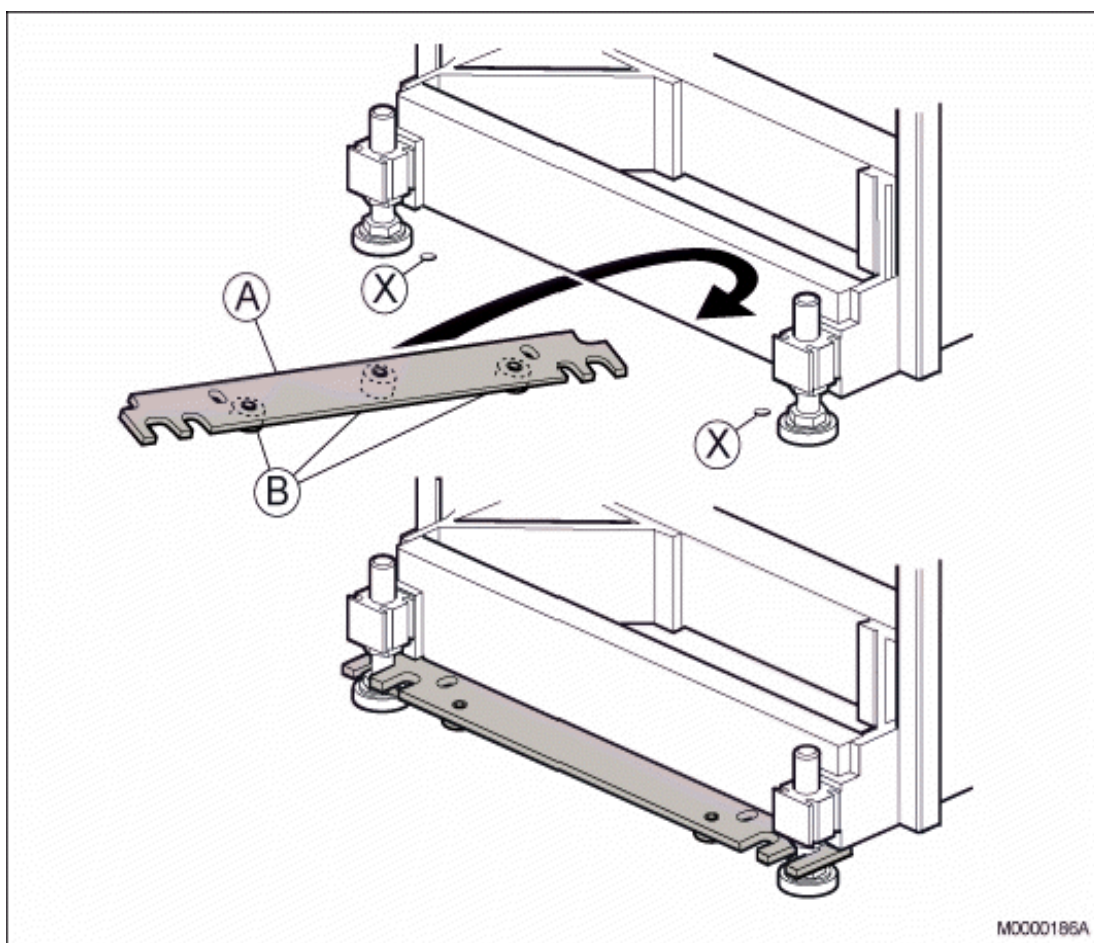

Figure 4: Installing the Tip Protection
1. Insert two expander screws (C) through the yoke (A) and into the concrete, see Figure 4 Installing the Expander Screw on page 11
3. Install two insulating washers (D), two washers (L), and two nuts (G) on the two expander screws, see Figure 4 Installing the Expander Screw on page 11